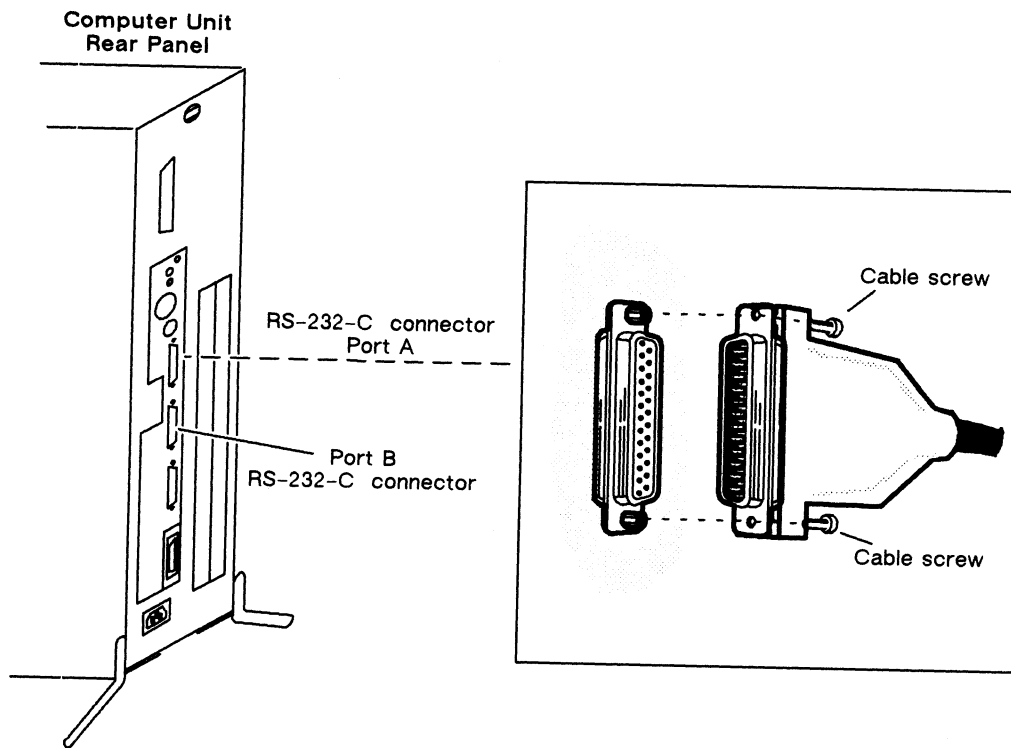

Figure 2-1 Connecting the System Console
1. Align the pins in the male end of the terminal cable to the holes in the upper RS-232-C connector (port A) on the computer unit rear panel, shown in Figure 2-1. The connector is labeled RS232A.